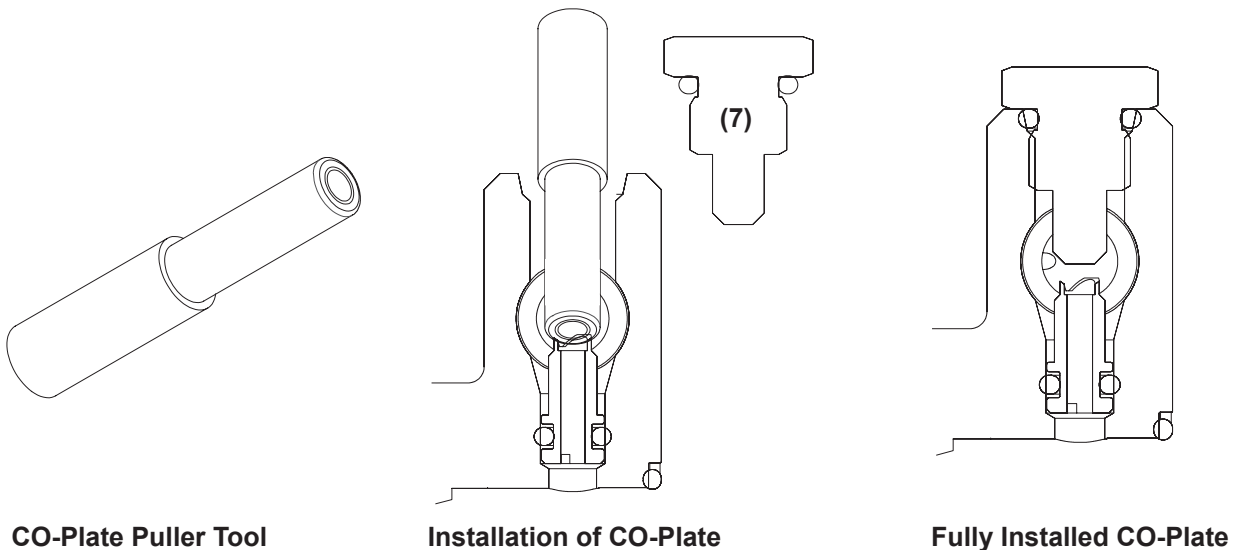

Figure 6 CO-Plate Installation
2. (See Figure 6.) Loosely thread the CO-plate onto the CO-plate puller tool shipped with the spray gun.